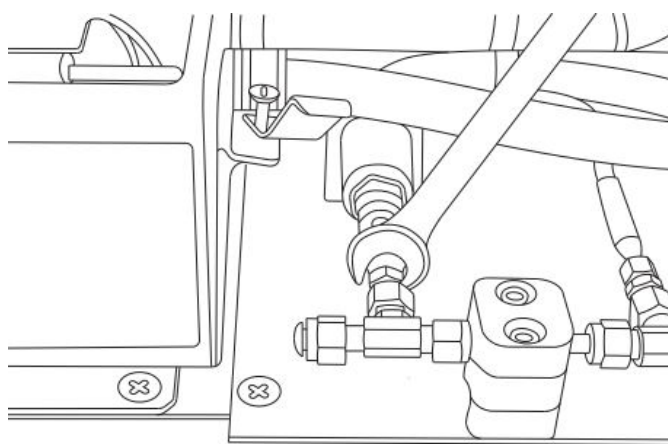

Figure 85. Remove tube nut
6. Remove the tube nut on the panel using a 1/2 in. open-end wrench turning “down” away from the analyzer. Refer to Figure 85.